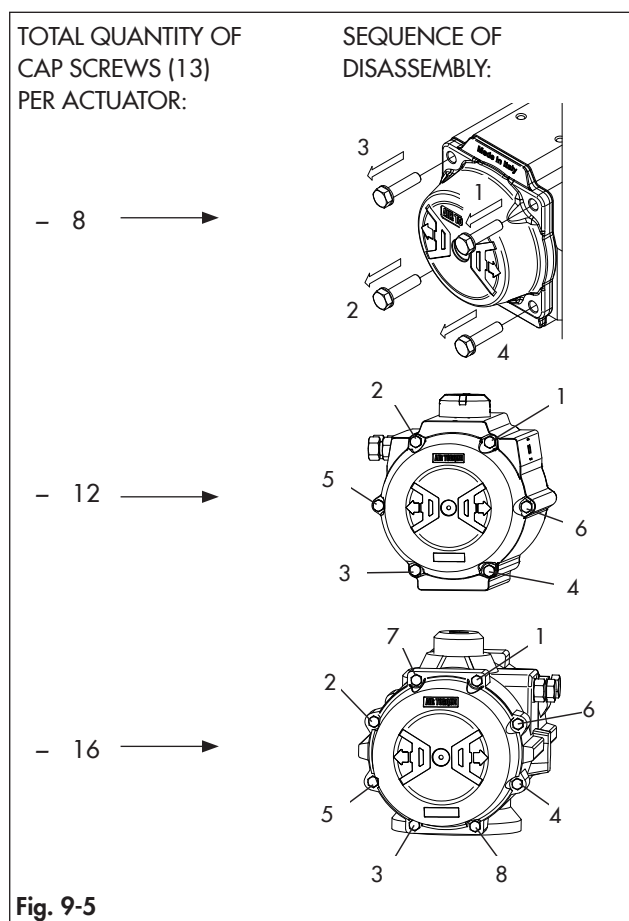
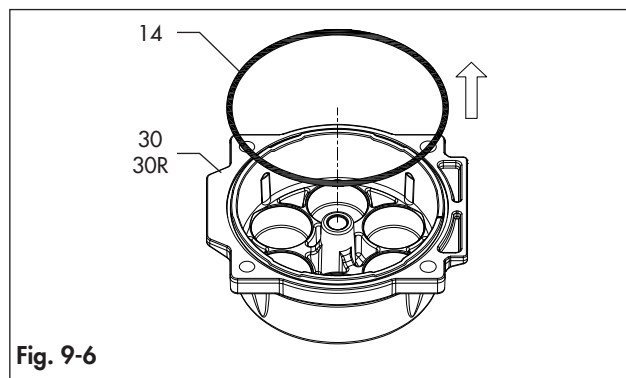

Fig. 9-5
Fig. 9-6
- ➔ Observe the specified sequence shown in Fig. 9-5.
- Release the springs compression by partially unscrewing each end cap bolt (13) 1 turn at a time as per the sequence shown in Fig. 9-5 for the number of turns indicated in Table 9-2.
- Completely unscrew and remove the end cap bolts (13)
- Remove the end caps (30).
- Remove the spring cartridges (17).
- Remove the o-rings (14). (Fig. 9-6)
- Unscrew completely the end cap bolts (13) as per the sequence shown in the Fig. 9-5.